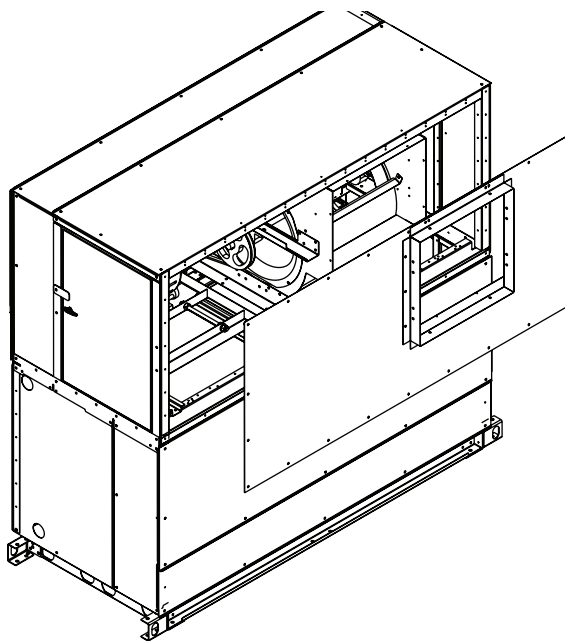

Fig. 57 — Remove All Panels
2. Remove all of the panels from the fan section (Fig. 57).